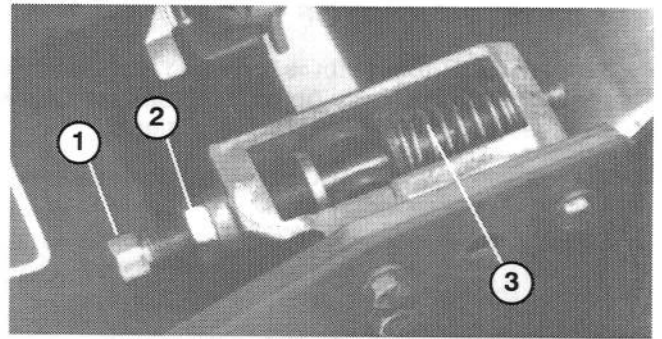
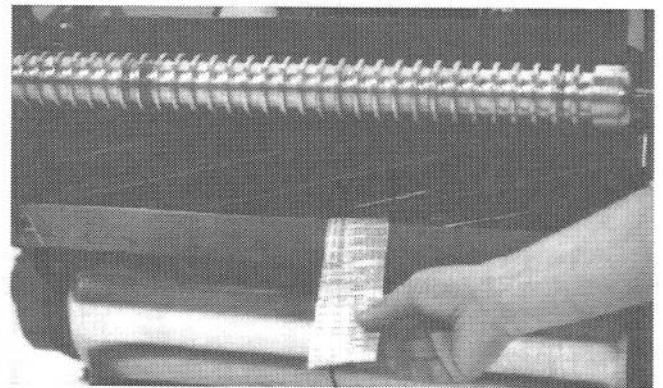

Figure 7
Figure 8
1. Position machine on a flat, level work surface. Make sure reel contact is removed by loosening jam nuts on bedknife adjusting screws and rotating adjusting screws counterclockwise (Fig. 7).
3. On one end of front side of reel, insert a long strip of newspaper between reel and bedknife (Fig. 8). While slowly rotating reel forward, tighten bedknife adjusting screw, (on same end of reel, one flat at a time, until paper is pinched lightly, when inserted from the front, parallel to the bedknife, which results in a slight drag when paper is pulled (Fig. 7).
5. After adjustment is accomplished, check to see if reel can pinch paper when inserted from the front and cut paper when inserted at a right angle to the bedknife (Fig. 8). It should be possible to cut paper with minimum contact between the bedknife and the reel blades. Should excessive reel drag be evident (more than 7 inch pounds) it will be either necessary to backlap or re-grind the cutting unit to achieve the sharp edges needed for precision cutting (see Toro reel sharpening manual).
**WARNING:** Use caution if removing bedbar because adjusting screw springs (Fig. 7) are under tension and could release suddenly.